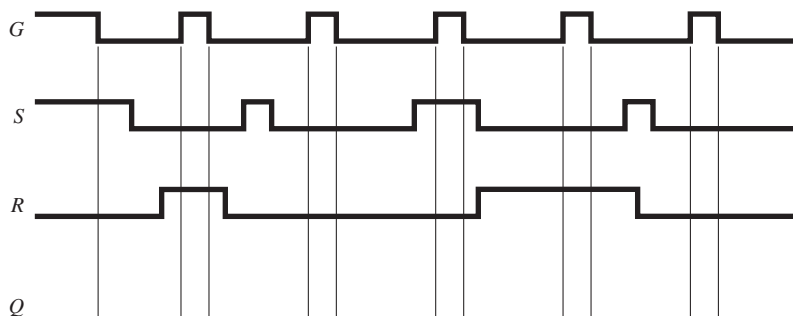

Figure P4
4. Repeat problem 2 for the input waves shown in Figure P4.